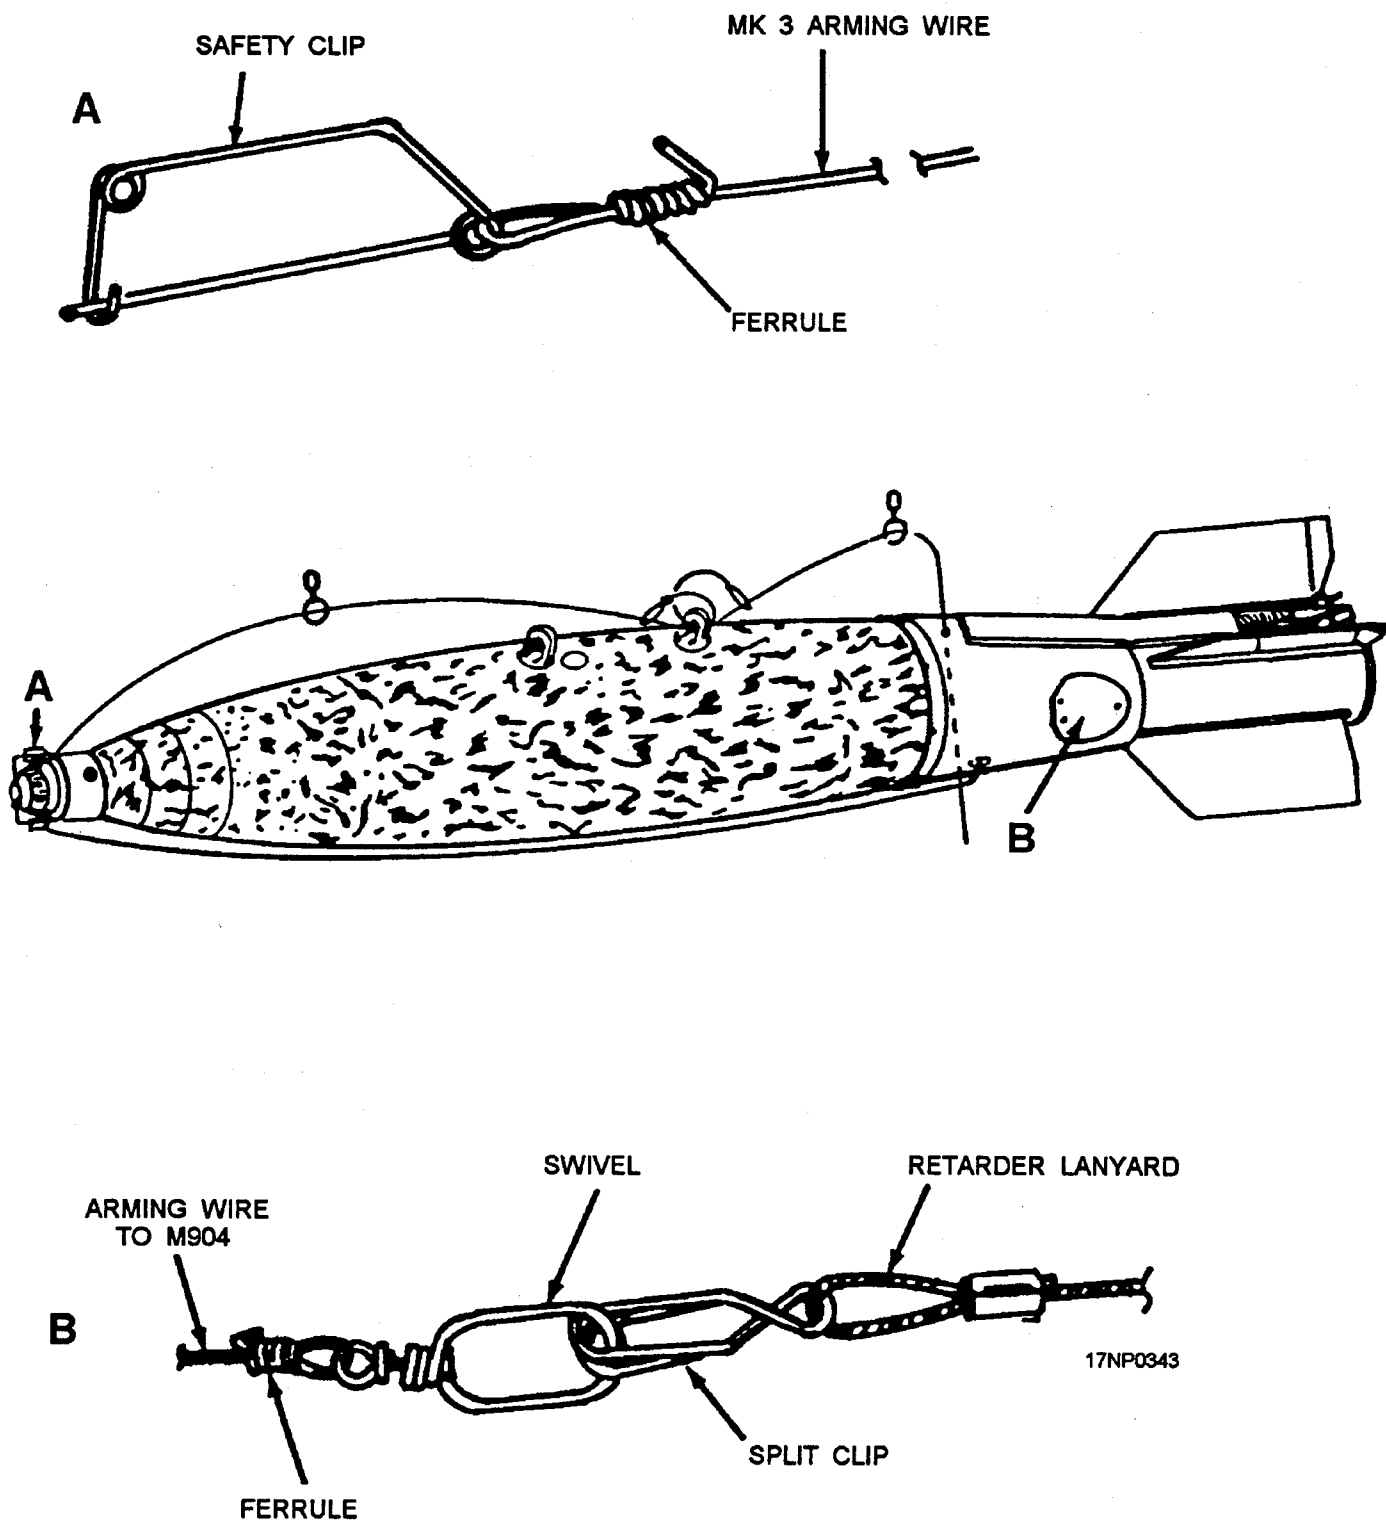

Figure 13-12.—Arming wire and split clip installation.
7. Attach the split clip to the arming wire swivel, route the arming wire through the bottom arming wire hole, and then route forward (fig. 13-12).